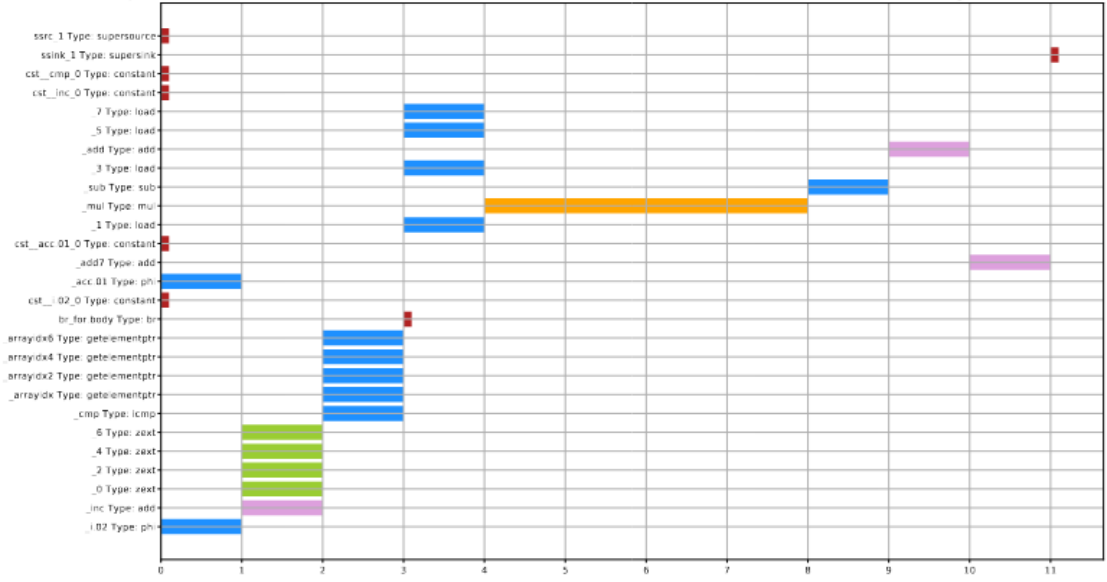
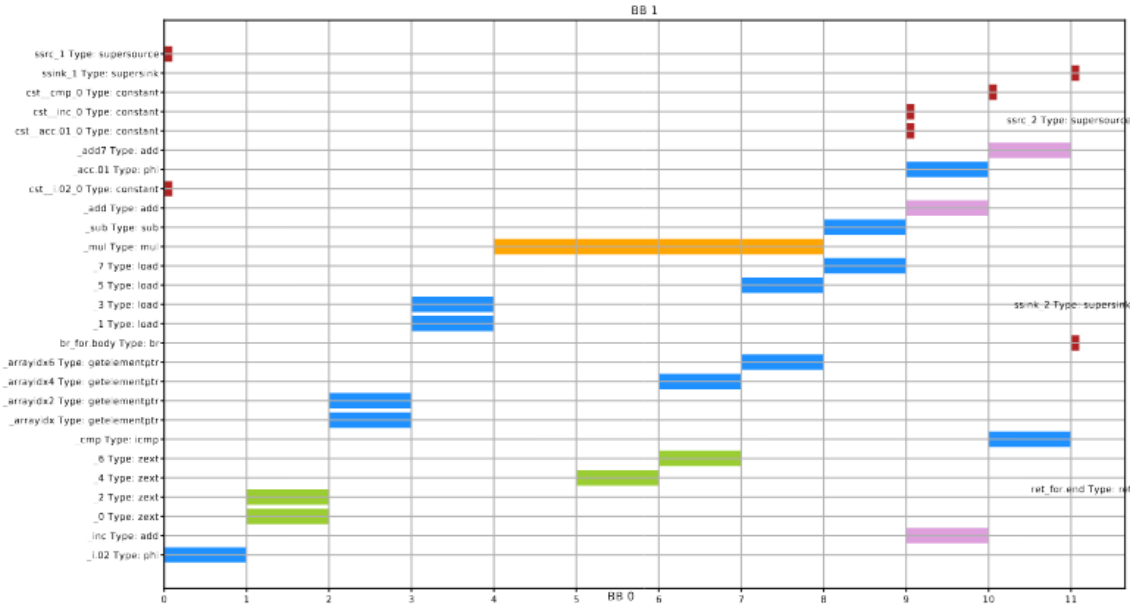

Figure 1: Kernel 3 with ASAP scheduling
Figure 2: Kernel 3 with ALAP scheduling
- Kernel 3: As shown in Figure 1 and Figure 2, the *BB1* with ASAP scheduling requires more hardware to fulfill the schedule.